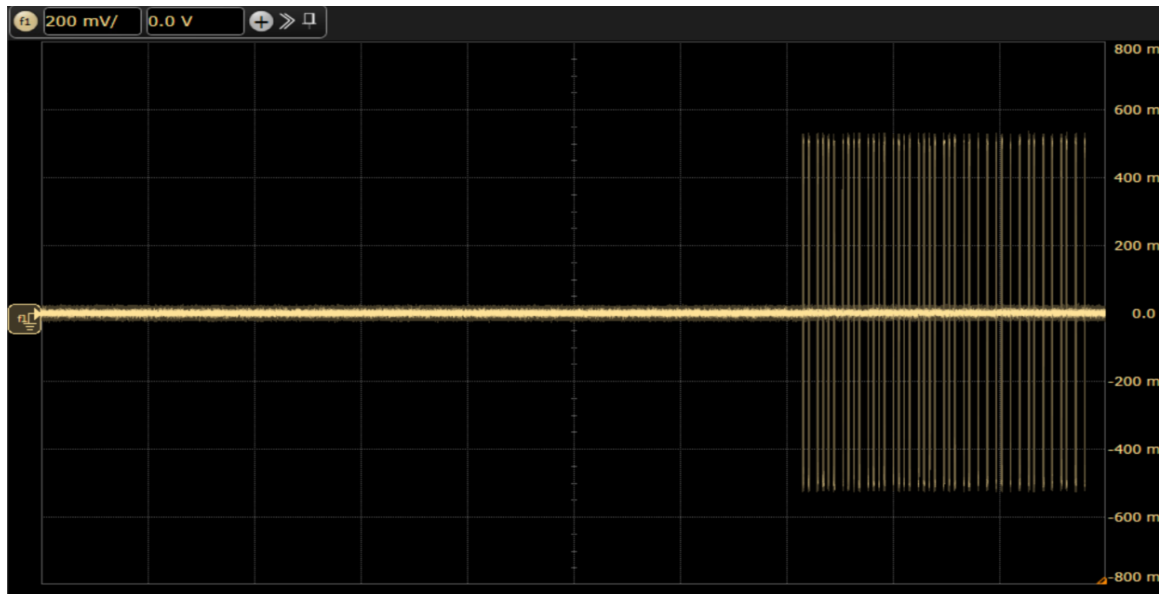

Figure 50 SCD signal on the acquired waveform in 10G SCD tests
- 11 Verify that the correct waveform has been acquired. The highlighted area in Figure 50 is the SCD signal.